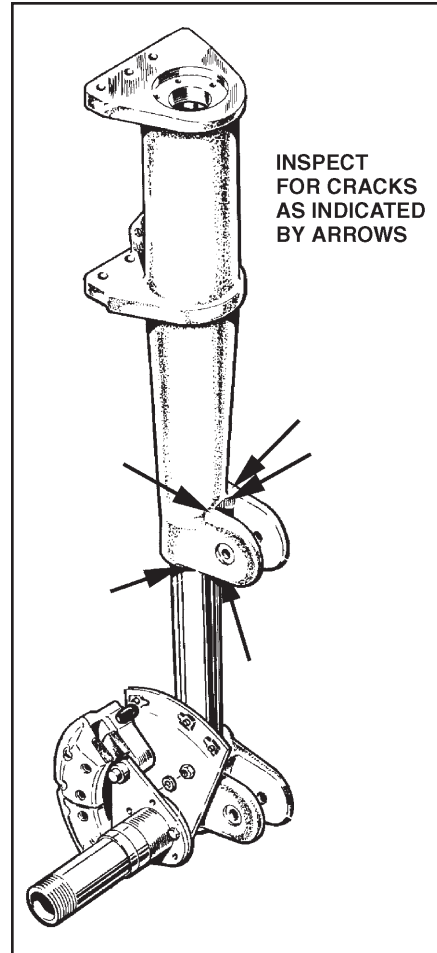

Figure 3-12
- (a) Thoroughly clean the area to be inspected as indicated in Figure 3-12 using a suitable cleaner.
- (b) Using a 10X power magnifying glass, visually inspect the gear cylinder top and bottom radii at the torque link attach lugs for cracks (Figure 3-12). If no cracks are found by visual inspection, proceed to Liquid Penetrant Inspection per latest revision of AC43.13-1 to check for cracks. Strip the paint and primer from the area to be inspected using a commercially available chemical paint stripper taking care only to remove paint and primer from the inspection area.